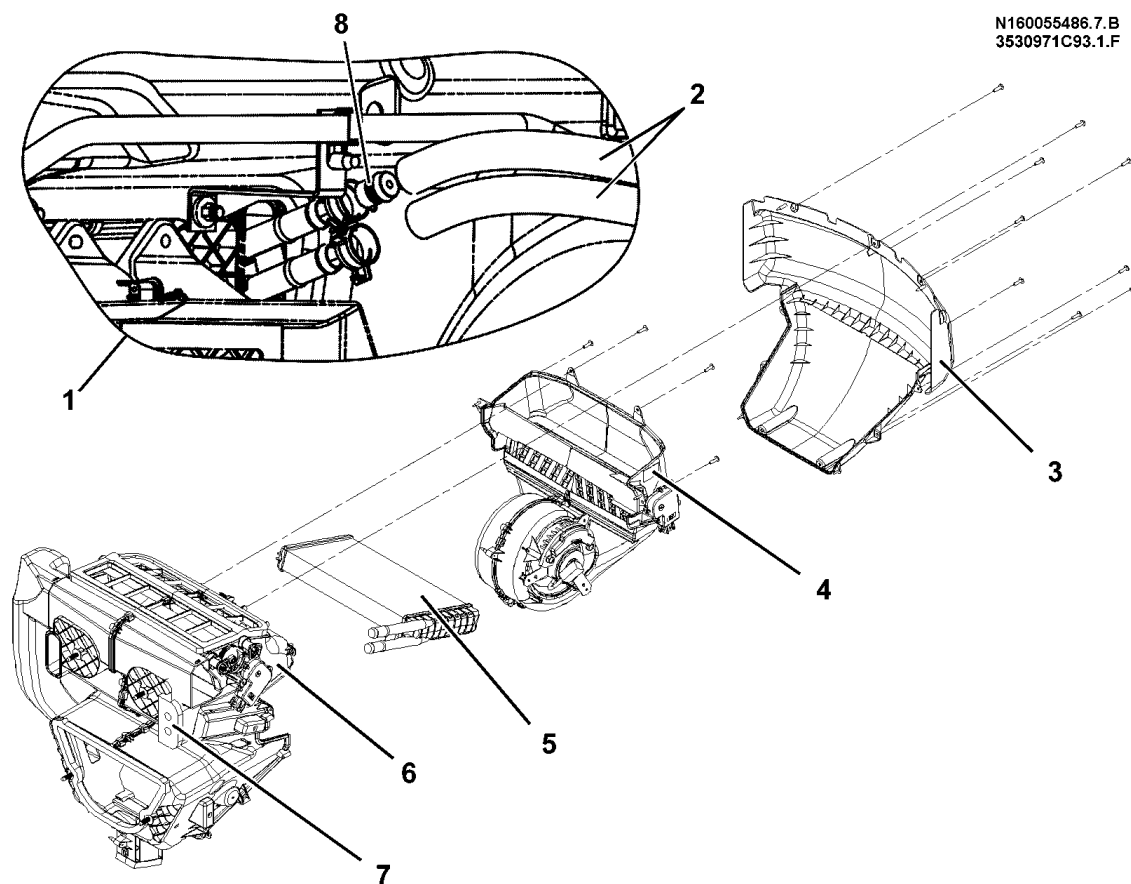

Figure 31 Heater Component Locations
NOTE – Refer to Figure 31 while performing the following Remove and Install procedures.
3. Disconnect both heater hoses (2, Figure 31) from heater core tubes on engine side of cowl.
1. From inside cab, carefully position heater core (5, Figure 31) in heater housing (6) so that tube ends of core protrude through dash panel seal (7).
2. Install blower scroll housing (4) and heater trim panel. Refer to REMOVE AND INSTALL, BLOWER SCROLL HOUSING, (See BLOWER SCROLL HOUSING, page 85)